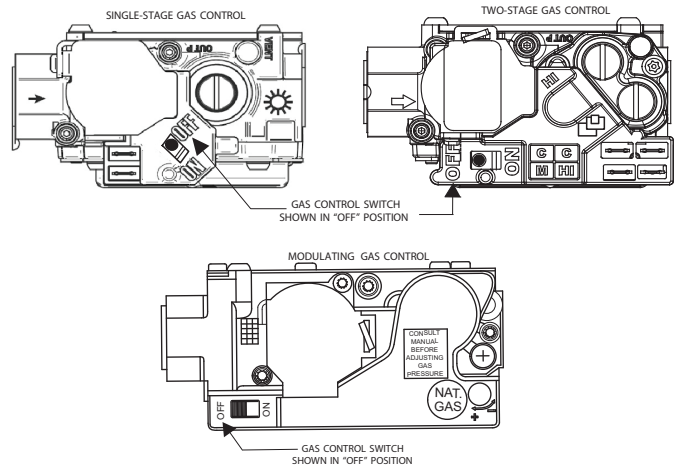

Fig. 11 – Control Switch to OFF
- Turn the control switch on the gas control to the OFF position and wait five minutes (see Fig. 11). Then smell for gas, including near the floor. If you smell gas, STOP! Follow “B” on furnace label. If you don’t smell gas, go to next step.
5. Turn control switch on the gas control to “OFF” position (see Fig. 11).